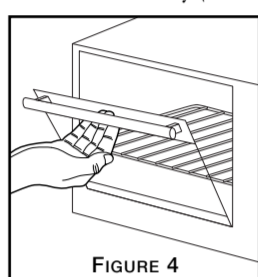

FIGURE 4
**Step 2:** Pull down the countertop oven door carefully (See Figure 4).